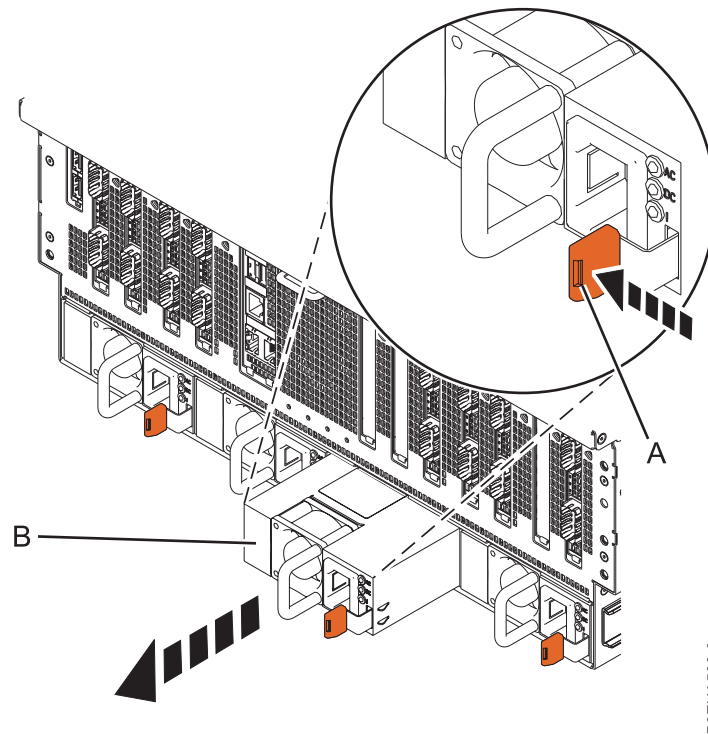

Figure 5. Removing a power supply from the rear of the system chassis
2. Push the terracotta locking-tab **(A)** in the direction shown in Figure 5.
3. Pull the power supply **(B)** away from the system, as shown in Figure 5.